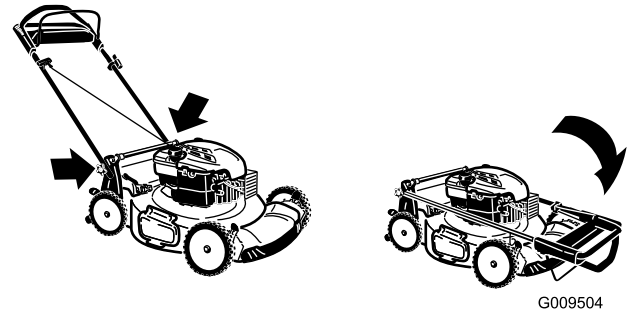

Figure 34
2. Fold the upper handle forward as shown in Figure 34.